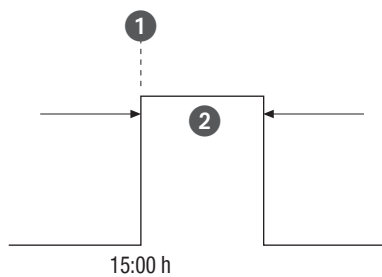

Fig. 24: Pulse switching
- (Fig. 24/①) Start time
- (Fig. 24/②) Duration = switching ON